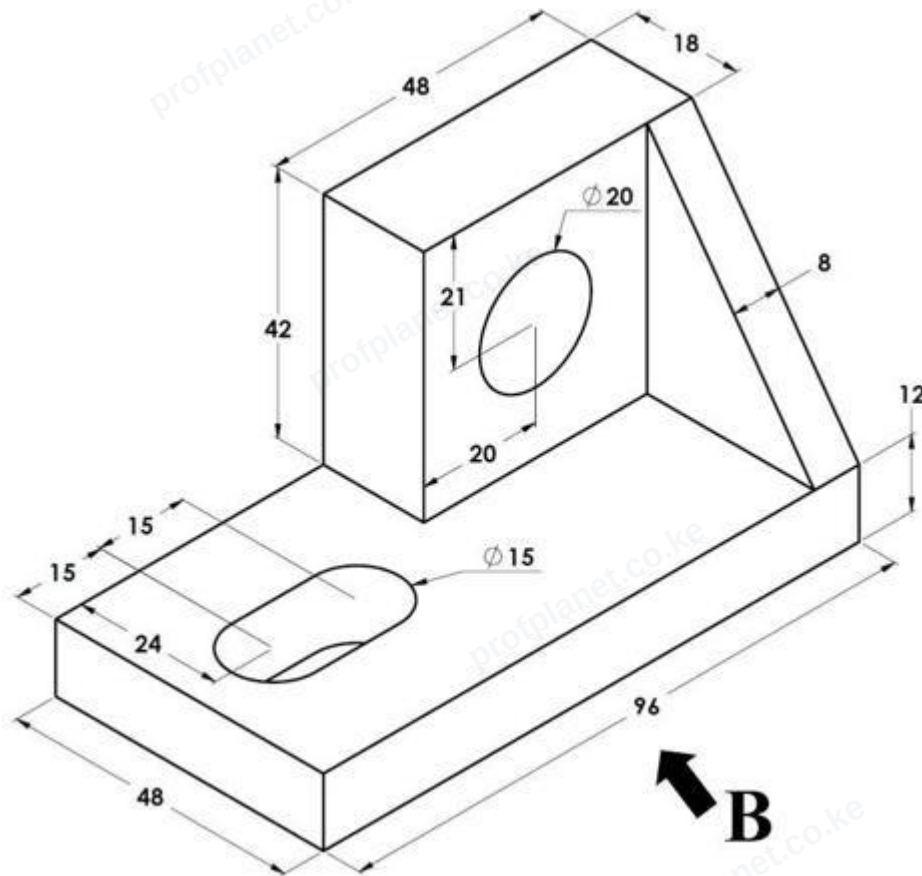

Figure 2
12. A fabrication industry intends to make the machine block component shown in Figure 2 below. Using a CAD program 3D model, draw the block and use viewports to extract the following views in conceptual visual style and print your finished work on an A4 paper.